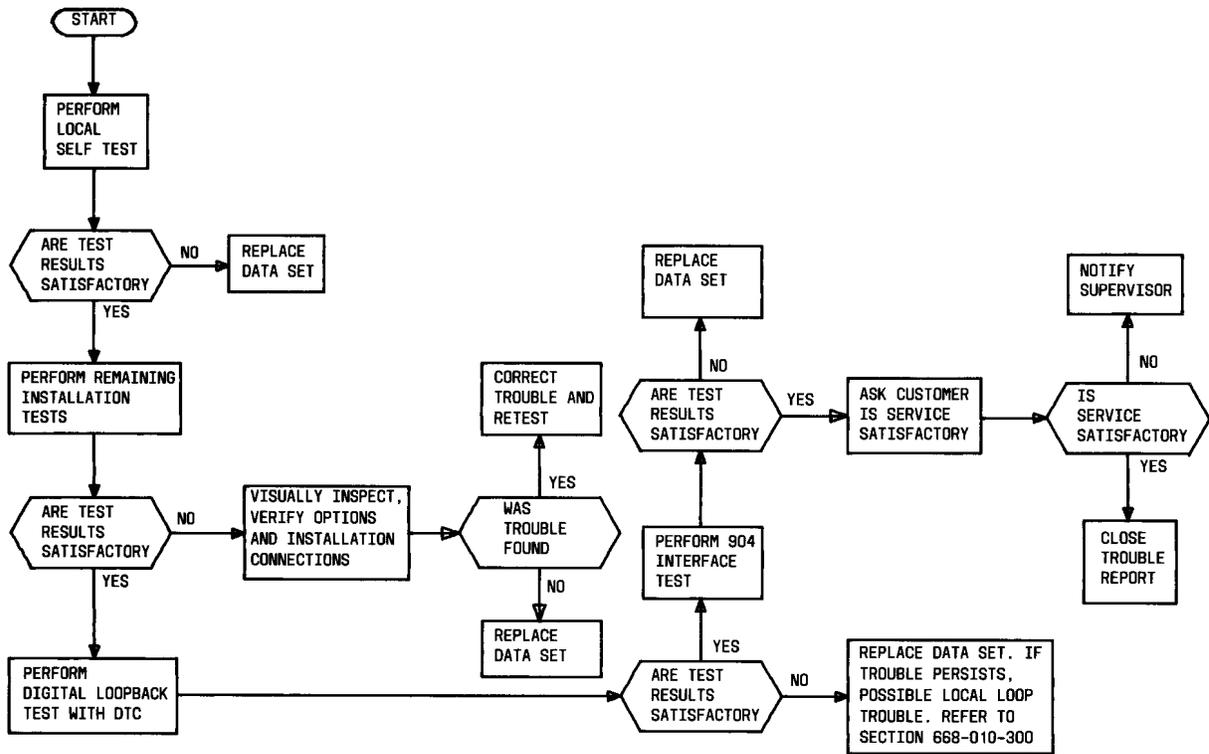

Fig. 7—Station Test Sequence
- (2) If this initial check does not reveal a trouble condition, proceed as indicated in Fig. 7.